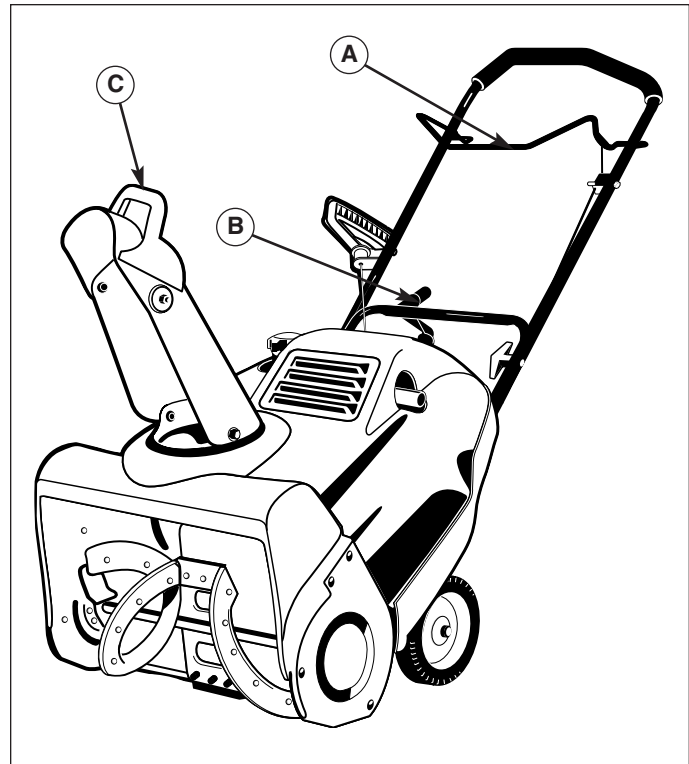

Figure 4. Snowthrower Controls
B. Chute Direction Control - The Chute Direction Control (B, Figures 4&5) allows the discharge chute to be rotated to throw snow in the desired direction. Snow may be thrown at any angle from straight left to straight forward, to straight right.
C. Chute Deflector - Controls the distance snow is thrown. Tilting the Chute Deflector (C, Figure 4) UP provides a higher stream and greater distance, while tilting the deflector DOWN provides a lower stream and less distance.
3. Check the Auger Control (see A, Figure 4) for proper operation. If adjustment is required, see the Service section (pages 13-15) for procedures.
4. Check the Chute Direction Control (B, Figure 4) for proper operation. The discharge chute should rotate freely in both directions. See the Service section for adjustment procedures and troubleshooting.
5. Check the Chute Deflector (C, Figure 4) for proper operation. The deflector should pivot freely up and down. See the Service Section for procedures.